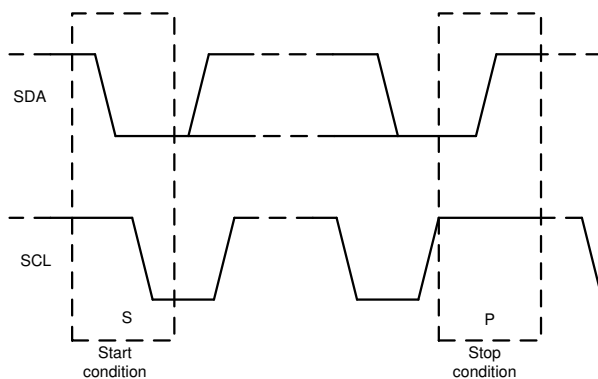

Figure 6-14. Start and Stop Conditions
1. The controller initiates data transfer by generating a start condition. The start condition is when a high-to-low transition occurs on the SDA line while SCL is high, as shown in Figure 6-14. All I²C-compatible devices recognize a start condition.
4. To signal the end of the data transfer, the controller generates a stop condition by pulling the SDA line from low-to-high while the SCL line is high, as shown in Figure 6-14. This action releases the bus and stops the communication link with the addressed target. All I²C-compatible devices recognize the stop condition. Upon receipt of a stop condition, the bus is released, and all target devices then wait for a start condition followed by a matching address.